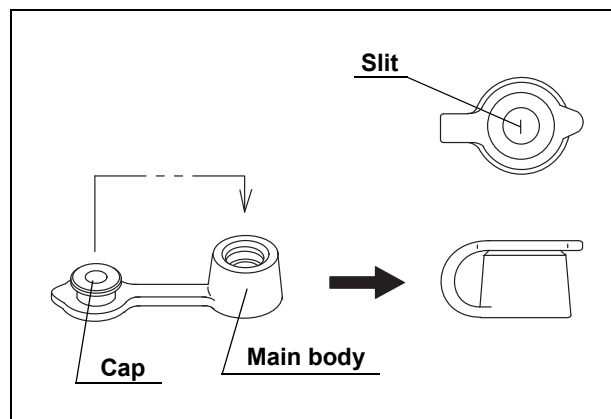

Figure 3.8
2. Attach the cap to the main body (see Figure 3.8).